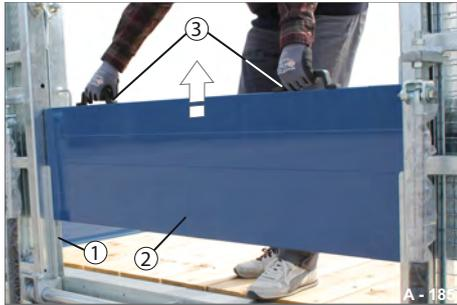

Fig. 194 Removing the slot-in platform gate
- ▶ Pull the slot-in platform gate (Fig. 194/2) by the two handles (Fig. 194/3) simultaneously out of the slot-in rails (Fig. 194/1) fully.
- ▶ Grip the slot-in rear platform gate (Fig. 194/2) by the two handles.
- ▶ Slot the slot-in platform gate simultaneously into the left and right slot-in rails (Fig. 194/1).